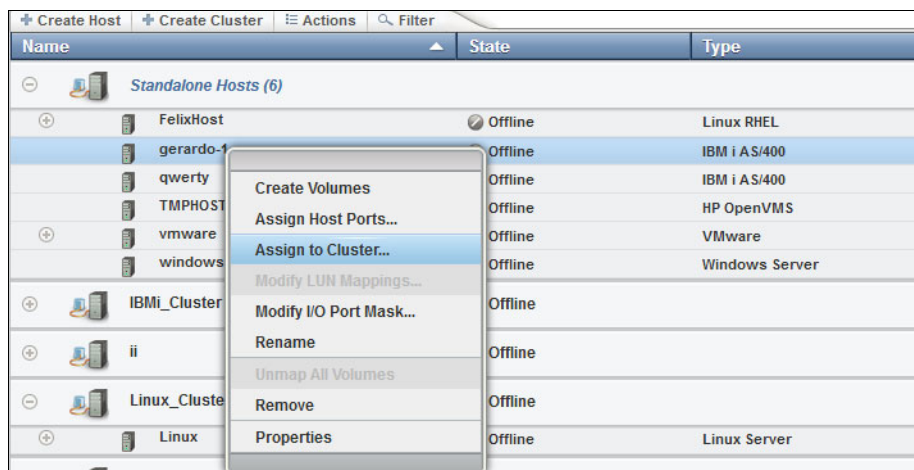

Figure 11-73 Assigning a host to a cluster
2. Either right-click, or from the Actions tab, select **Assign to Cluster**, as shown in Figure 11-73.